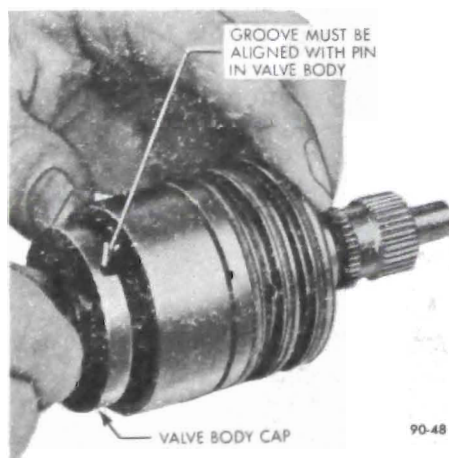

Figure 90-58 Assembling Stub Shaft, Torsion Bar and Cap Assembly in Valve Body
3. Assemble the stub shaft torsion bar and cap assembly in the valve body, *aligning the groove in the valve cap with the pin in the valve body*. See Figure 90-58. Tap lightly on the cap with a soft mallet until cap is against the shoulder in the valve body. *Valve body pin must be in the cap groove*. Hold these parts together during the rest of valve assembly.